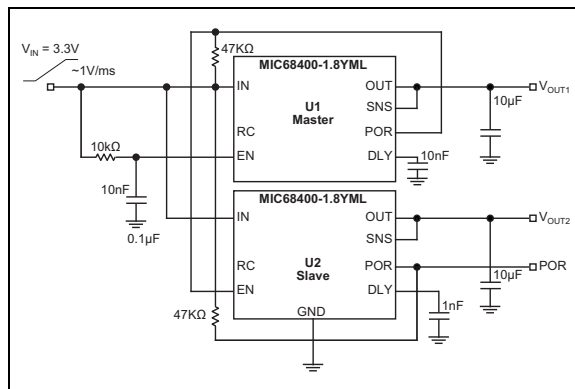

FIGURE 4-2: Enable Connection for V_{IN} -Driven and/or Slow Rise Time Inputs.
- Paragraph added after Figure 4-2 in Section 4.2 “Input Capacitor”.